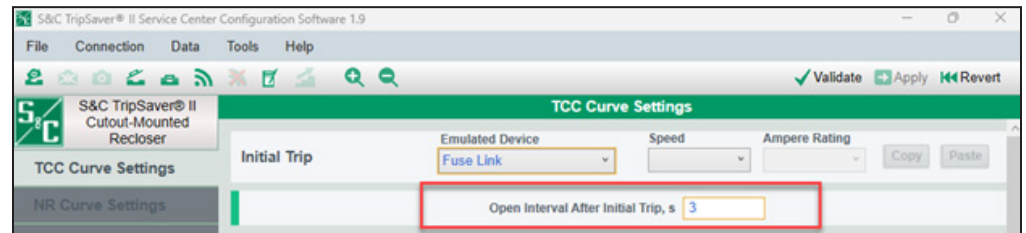

Figure 6. *TCC curve* screen showing **Open Interval** setting.
STEP 5. Navigate to the *TCC Curve Settings* screen and check the **Open Interval** setting. See Figure 6.